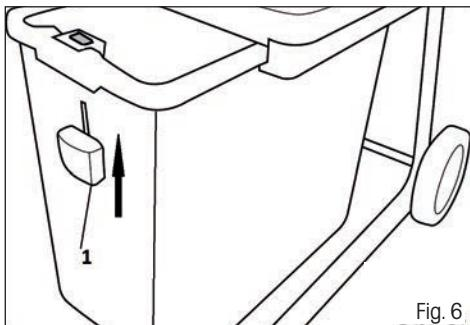

Fig. 6
3. Insert the collection box and lock in place using the safety mechanism. Fig. 6, point 1
- ❖ For safety reasons, the handle of the collection box (Fig. 6, point 1) is equipped with a safety lock.